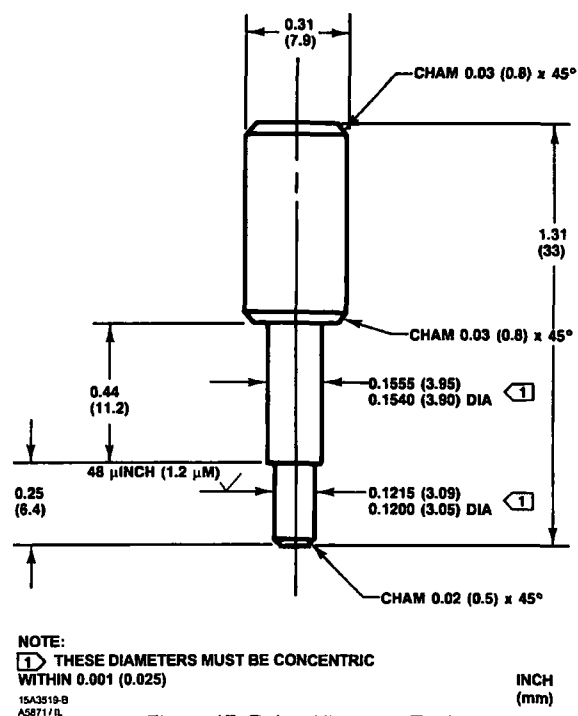

Figure 17. Relay Alignment Tool (Part Number 15A3519 X012)
Although the alignment tool shown in figure 17 is not required for assembly of the relay, using the tool will prevent excessive air consumption and dead band. If low air consumption and minimum dead band are required, make or purchase the alignment tool before
5. If using an optional alignment tool (figure 17), insert the smaller end of the tool into the opening in the relay body. If the tool does not engage the hole in the diaphragm assembly, move the relay parts slightly to reposition the diaphragm assembly so that the alignment tool engages the hole in the diaphragm assembly. Do not remove the alignment tool until the casing screws have been tightened.
6. Tighten the casing screws (key 96) evenly. Remove the alignment tool if one was used.
7. Install the valve plug, spring, gasket, and cover plate (keys 87, 93, 94, and 95). Secure with the machine screws (key 97).
8. Install the O-ring (key 90) on the orifice assembly (key 88), and install the orifice assembly into the relay casing.